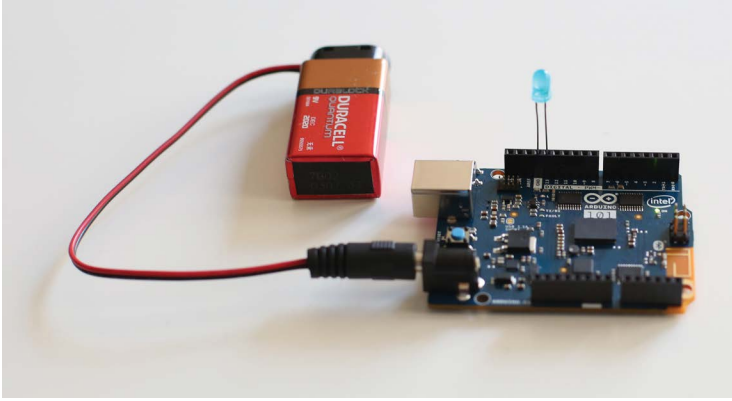

FIGURE 3.13: The Arduino 101 with a 9V battery and a battery jack
- * Power the Arduino 101 with the code you just uploaded using a 9V battery and a battery jack like in Figure 3.13.